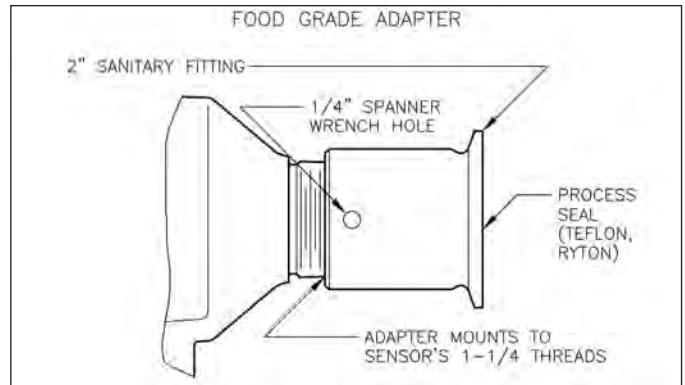

Figure 6
**Food Grade Adapter** - (See Figure 6) In applications where mounting threads are not permitted, a food grade adapter with an 2" industry standard TRI-CLOVER® or Cherry Burrell type connection can be installed to the standard sensor. A 2" mating ferrule must be used for mounting to the line.